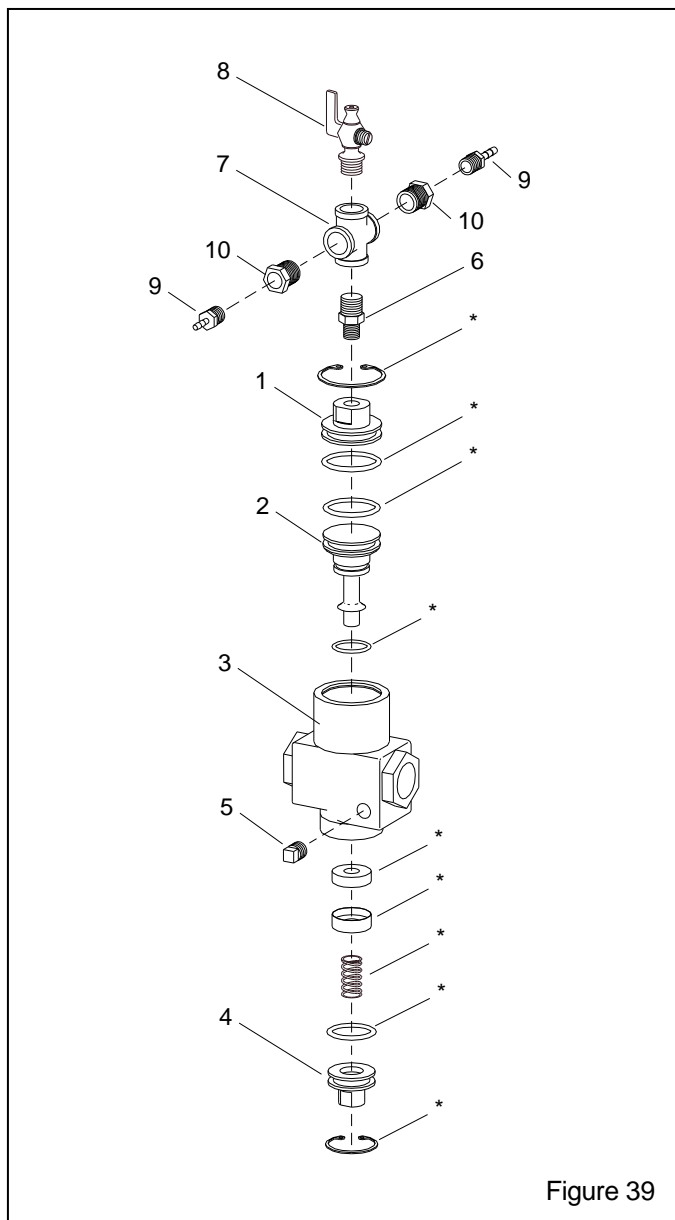

Figure 39
10.9 Inlet Valve, 1/2-Inch – Figure 39